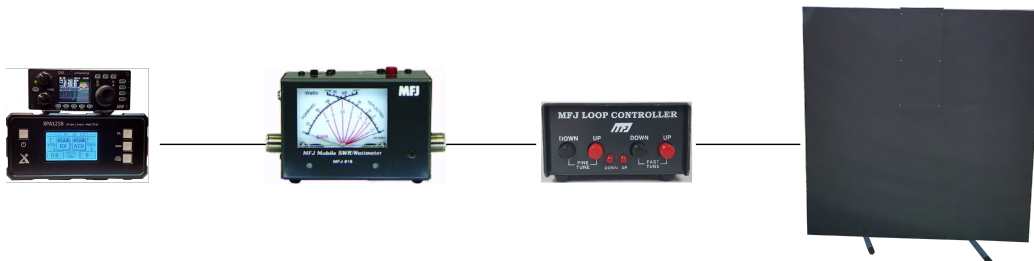

Figure 5: Typical Station Setup
Figure 5 shows a simple layout for a portable station using the MFJ-1784. Connect the controller, either the standard one or the Deluxe Loop Controller, between the radio and the MFJ-1784. Key the radio at low power (<10W) and adjust the antenna to match using the either radio's SWR meter or a simple one such as the MFJ-818.
Step 2: Assemble your station as shown in Figure 5.